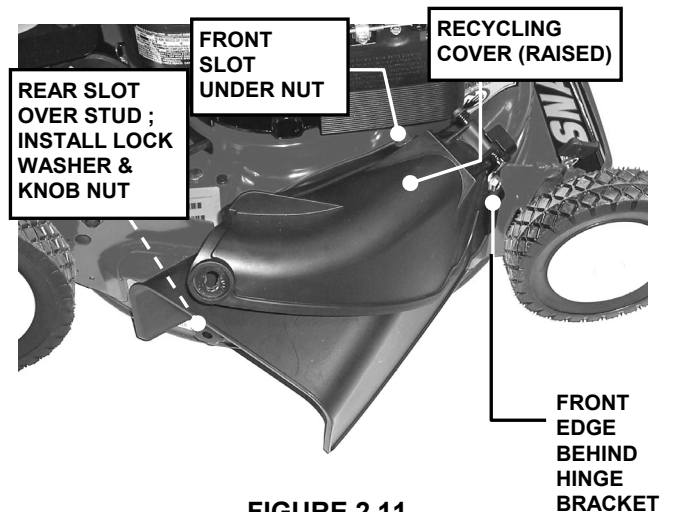

FIGURE 2.11
STEP 2: Install deflector to deck underneath raised recycling cover, making sure that: 1) outside front edge of deflector slips behind recycling cover hinge bracket, 2) slot on inside front of deflector slips under restraining nut on top of deck (under right front corner of engine), and 3) slot on inside rear of deflector slips onto stud behind rear of discharge opening, where rear of recycling cover was originally secured. See Figure 2.11. Install internal/external tooth lock washer and knob nut onto stud and tighten securely. Release recycling cover and allow it to rest against side discharge deflector.